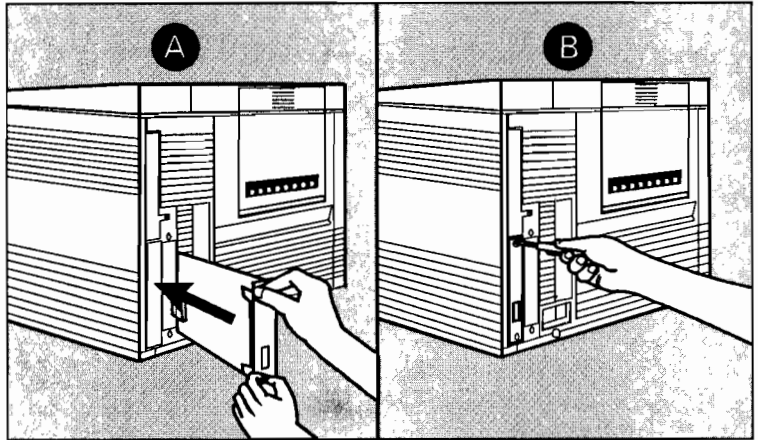

Figure 3-7. Installing the Ethernet Adapter Card
- a. Hold the adapter card by its thumbscrew posts with the BNC connector on the top, as illustrated by Ⓐ in Figure 3-7. Push the adapter card firmly into the accessory slot.
- b. Tighten each thumbscrew a little at a time, alternating between the top and bottom screws until the screws are fully tightened. See Ⓑ in Figure 3-7. Tightening each screw a little at a time prevents possible damage to the card's backplane connector.